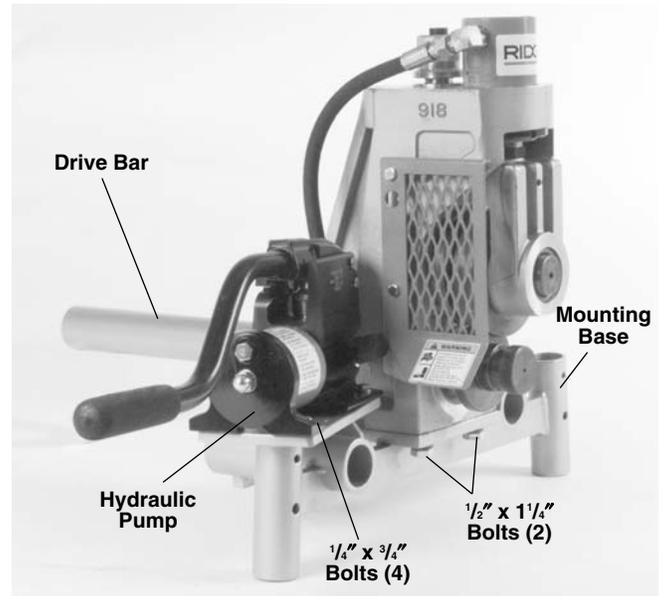

Figure 3 – 918 Heavy Duty Roll Groover on 1822 Mounting Base
1. Position 918 Roll Groover on the mounting base as shown in *Figure 3*.
2. Install and tighten the (2) 1/2" x 1 1/4" hex bolts which connect 918 to mounting base.
3. Position hydraulic pump and securely bolt in place with (4) 1/4" x 3/4" hex bolts.
4. Attach drive bar adapter to roll groover by tightening two (2) set screws.
6. Check that guard mounted to the roll groover is in place (*Figure 3*).